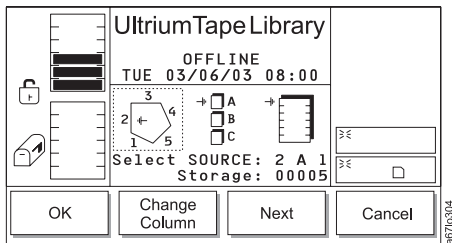

Figure 4-142. Get/Put Source Dialog
- c. Press the button below the **OK** softkey. The Get/Put Source Dialog displays (see Figure 4-142) with a message area that shows three icons:
The position of the arrow in each of the three icons identifies the storage slot's physical address. For example, arrows that point to a column 2, magazine A, and storage slot 1 indicate a physical address of 2 A 1. In the Get/Put Source Dialog, a slot's physical address displays below the right icon (see Figure 4-142).